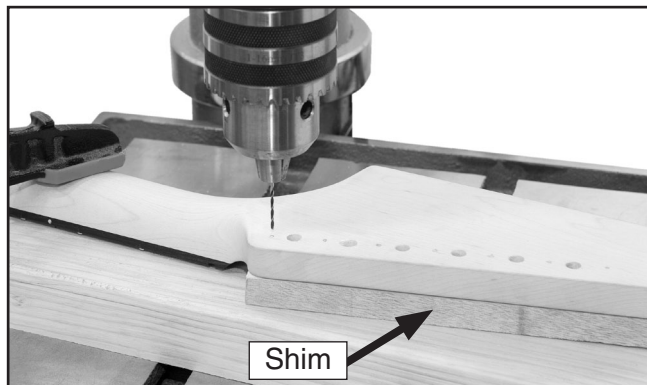

Figure 21. Headstock supported with shim.
4. Fasten a $\frac{9}{16}$ " thick wood shim with tape on the top side of the headstock and over the tuner holes (**Figure 21**). This will help stabilize the neck during the next step.
5. Using a $\frac{1}{16}$ " drill bit, drill $\frac{7}{16}$ " deep holes into the back of the headstock (**Figure 21**).